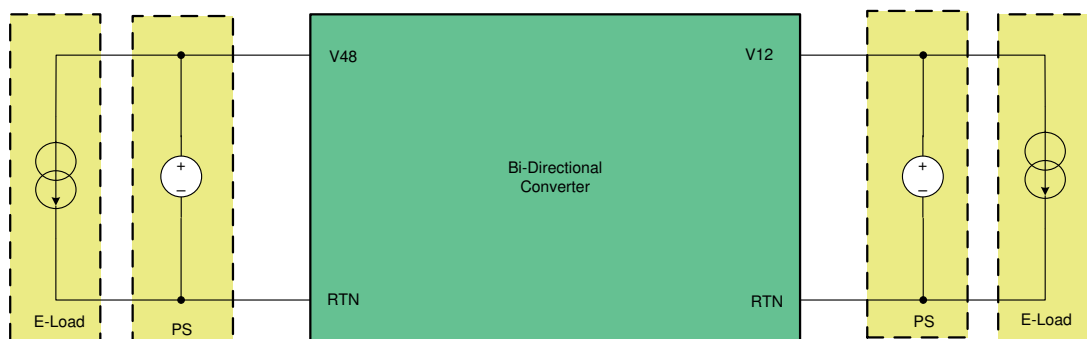

Figure 71. Emulated Dual Battery System With Bench Power Supplies and E-Loads
The LM5170-based converter is designed to operate with two differential voltage rails like the 48-V and 12-V dual battery system, or a storage system having a battery on one end and the Super-Cap on the other end. When operating with bench power supplies, each supply should be capable of sourcing and sinking the maximum operating current. This may require to parallel an Electronic load (E-Load) with the bench power supply (PS) to emulate the batteries, as shown in Figure 71.